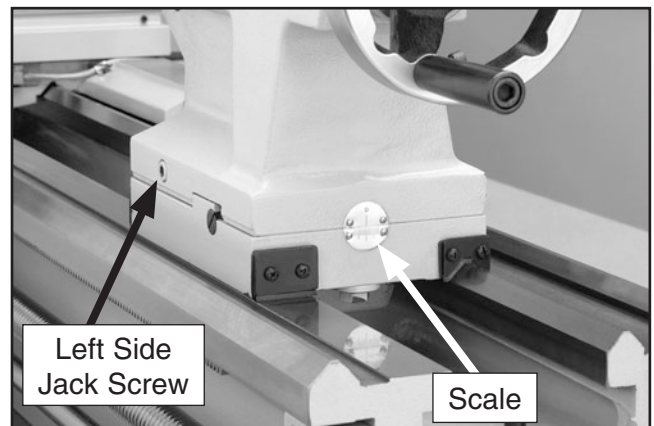
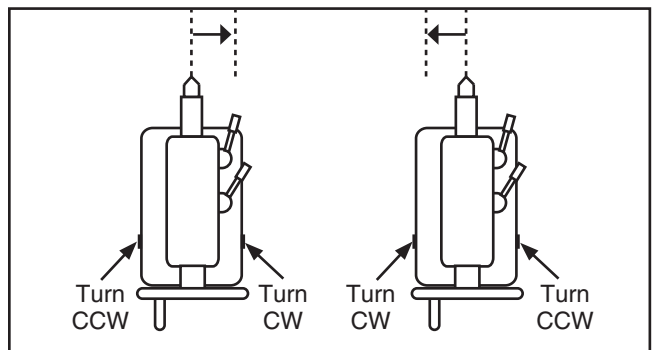

Figure 44. Tailstock offset adjustments.
Figure 45. Jack screw adjustment verses tailstock movement.
1. Lock the tailstock in position, and adjust the left and right jack screws until the scale (**Figure 44**) indicates the offset you want. See **Figure 45** for adjustment direction.